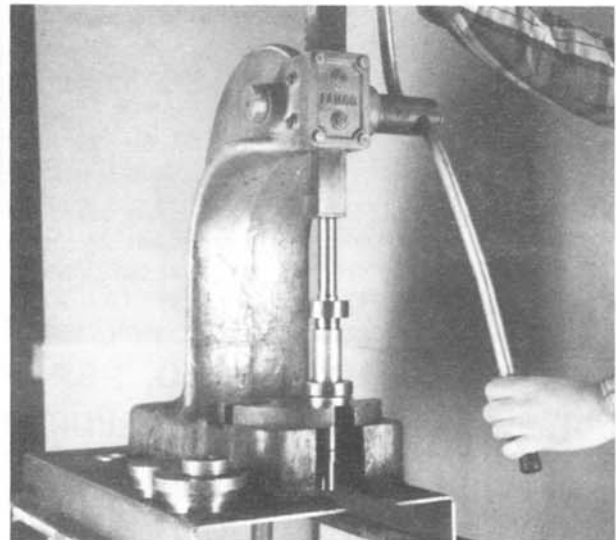

Figure 3
1. Press new bearings onto shaft with arbor press as shown in Fig. 3. Ensure force is only exerted on inner race of bearings.